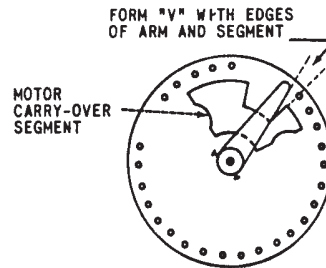
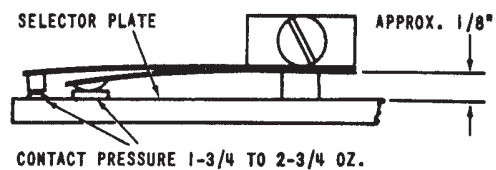

Figure 14.
Figure 15.
2. Set the Contact Arm on the shaft so the edge of the blade forms a "V" with the edge of the motor carry-over segment as shown in *Figure 14*, and the lower part of the hub is spaced approximately 1/8" from the surface of the selector plate as shown in *Figure 15*.